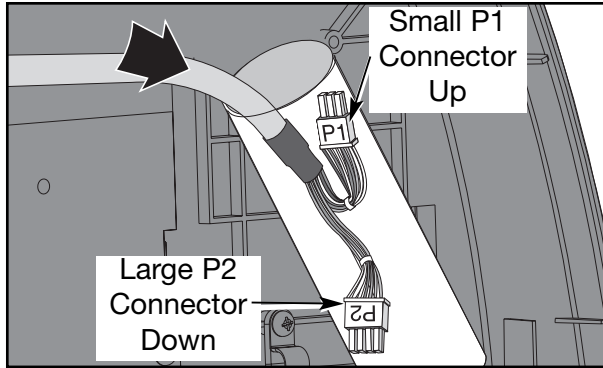

Figure 23
- B.** Push the P2 connector down into the top handrail hole with the P1 connector pointing up. See Figures 23 and 24.